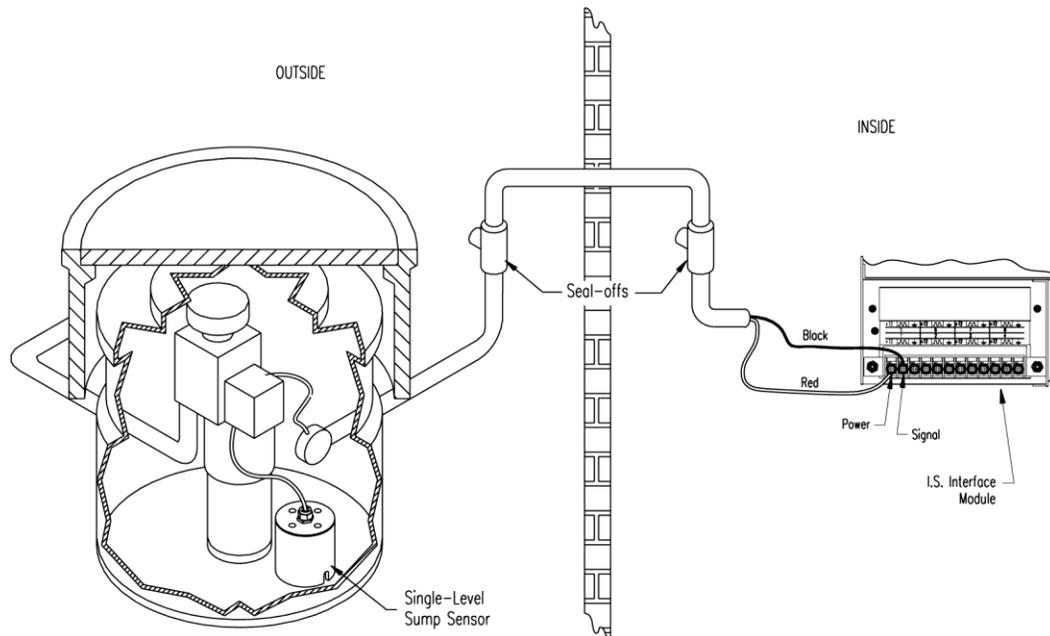

Figure 13-10 Single-Level Sump Sensor Installation
- Review Figure 13-10 on page 53.